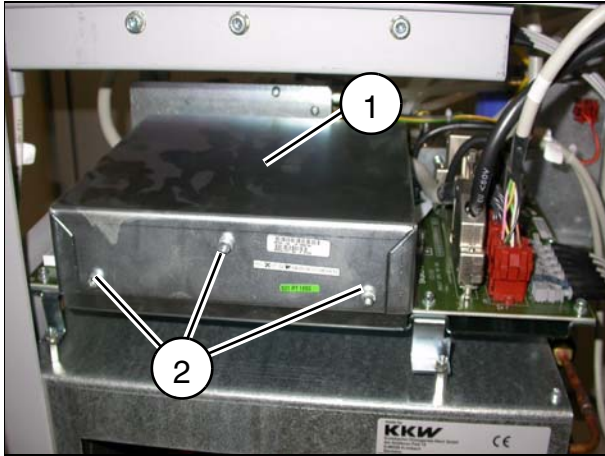

Fig. 1
- Remove the EMC cover (1/Fig. 1) of the circuit board D3 after loosening the screws (2/Fig. 1).